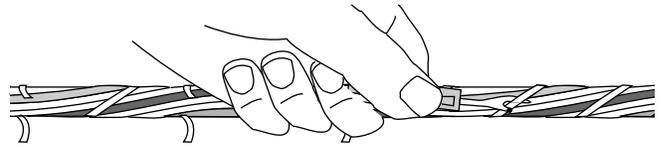

Figure 26
7.8 Use the seam ripper every 5 cm (2 in.) to cut the binding tape(s) that secures the buffer tubes to the dielectric central member. **USE EXTREME CAUTION** to prevent buffer tube damage (Figure 26).